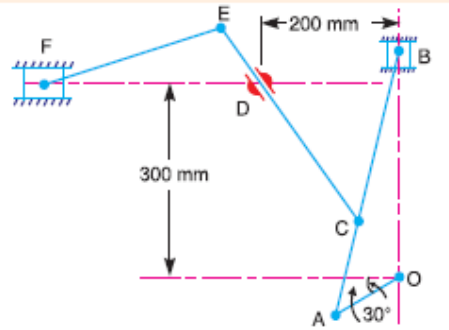

Figure 2.3
- (b) In a mechanism shown in Fig. 2.3, the crank OA is 100 mm long and rotates clockwise about O at 120 rpm. The connecting rod AB is 400 mm long. At a point C on AB, 150 mm from A, the rod CE 350 mm long is attached. This rod CE slides in a slot in a trunnion at D. The end E is connected by a link EF, 300 mm **07**